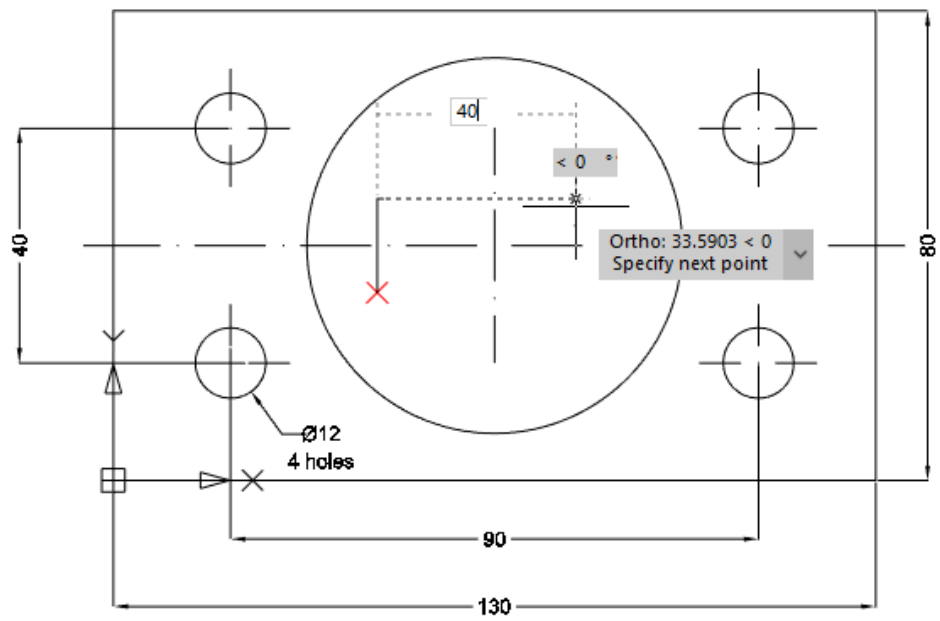

Fig. 4. Dynamic input
3. To draw the next point, move cursor to the right and type the distance 40 (fig. 4):